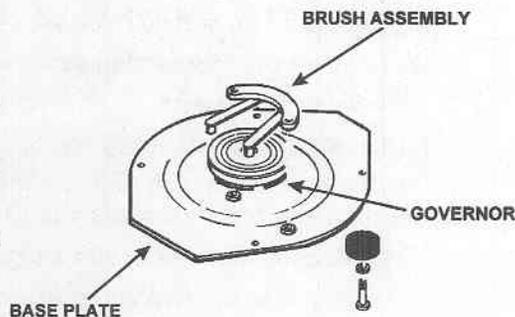

Figure 3-6. Governor.
- (1) Align the base plate and four rubber feet onto the base of the centrifuge.
- (2) Reinstall the four slotted screws and tighten them.
- (3) Turn the centrifuge back over to its operating position.
- (4) Open the cover by pulling the bottom of the latch outward and lifting the cover upward.
- (5) Reinstall the rotor assembly by pushing it down over the spindle and then rotating it clockwise until it locks.
- (6) Close and latch the cover.
**3-22. Governor (fig 3-6).**
- (1) Turn the timer to its "OFF" position.
- (2) Disconnect the electrical power cable assembly from the electrical receptacle.
- (3) Open the cover by pulling the bottom of the latch outward and lifting the cover upward.
- (4) Remove the rotor assembly by pulling it upward. Set it aside.